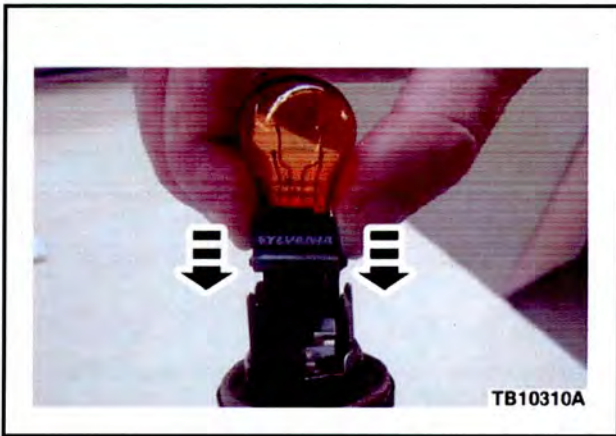

Figure 3 - Article 12-7-12
- a. Insert the new bulb into the new socket. Do not push on the orange bulb itself. (Figure 3)